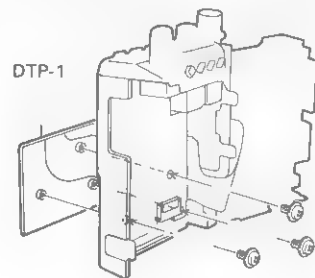

Fig. 4
6. Thread the flat cable of the DTP-1 through and tighten the three screws. (Fig.4)